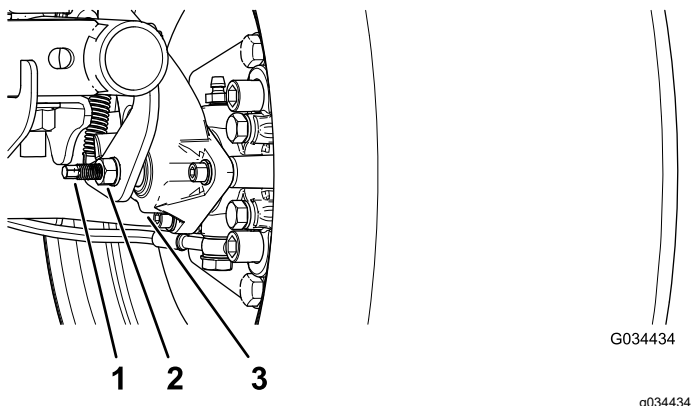

Figure 56
3. Using 2 wrenches, hold the adjusting post on the caliper in place with 1 wrench, and loosen the jam nut 1/4 turn with the other wrench (Figure 56).
4. While holding the adjusting post and the jam nut in place, turn the adjusting post in to tighten (Figure 56).
5. While holding the adjusting post and the jam nut in place, back off 1/4 turn (Figure 56).
6. While holding the adjusting post and the jam nut in place, tighten the jam nut (Figure 56).